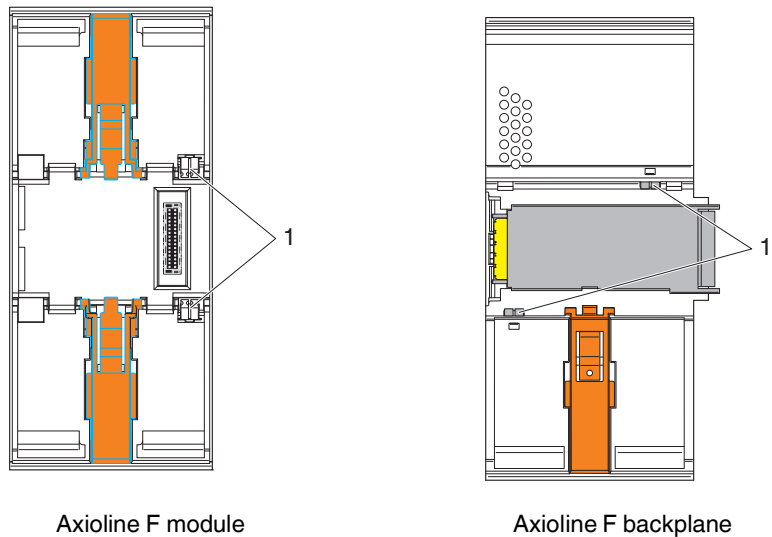

Figure 9-1 FE spring (1)
- 1 The Axioline F modules (controller, bus coupler, backplanes, I/O modules) have at least one FE spring (metal clip, 1 in Figure 9-1) at the bottom. This spring establishes an electrical connection to the grounded DIN rail when the module is mounted. When using grounding terminal blocks to connect the DIN rail to protective ground, the modules are then also grounded when snapped onto the DIN rail.